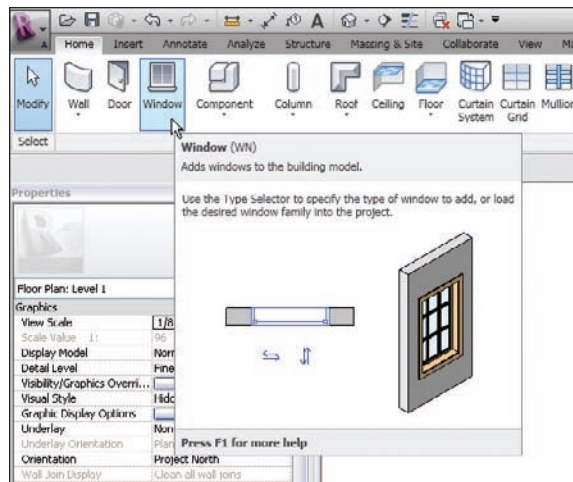

FIGURE 2.77 Adding a window is the same as adding a door.
1. On the Home tab, click the Window button, as shown in Figure 2.77.